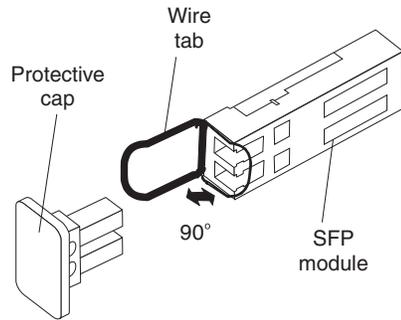

Figure 23. Unlocking the SFP module latch - wire variety
- For SFP modules that contain wire tabs, unlock the SFP module latch by pulling the wire latch outward 90°, as shown in Figure 23 on page 31.